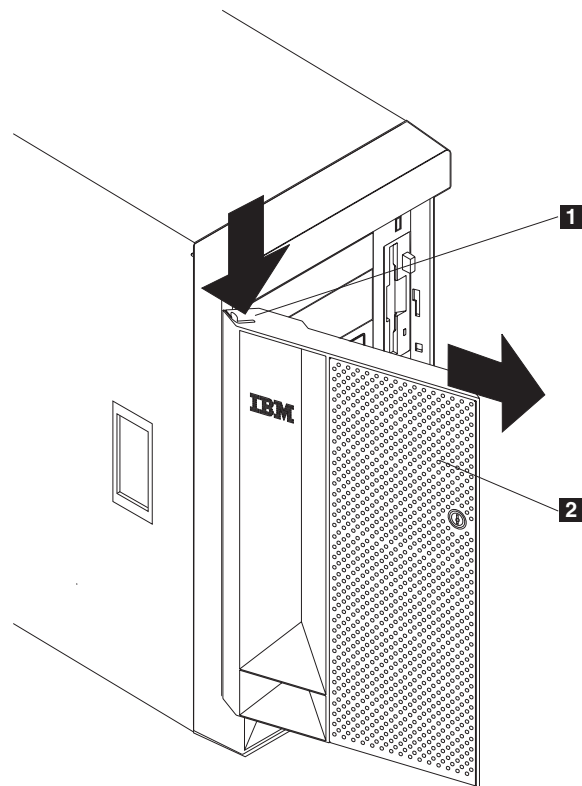

Figure 32. Removing the appliance door of the Model 25T
2. Locate the flange on the top edge of the door (see Figure 32).